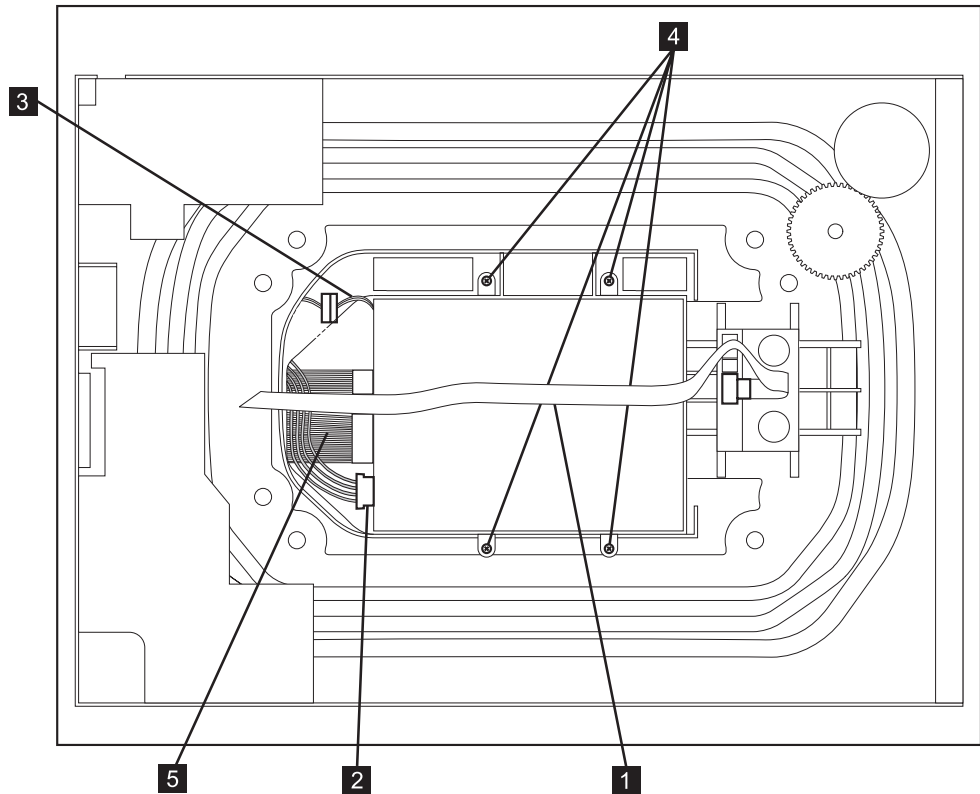

Figure 160. Internal view of drive in Autoloader
- a. Remove the four screws securing the drive (**4** in Figure 160).
- b. Unplug the SCSI cable (**5** in Figure 160).
- c. Unplug the power cable (**2** in Figure 160).
- d. Unplug the RS-422 cable (**3** in Figure 160). Use a flat blade screw driver to separate the two parts of the connector.